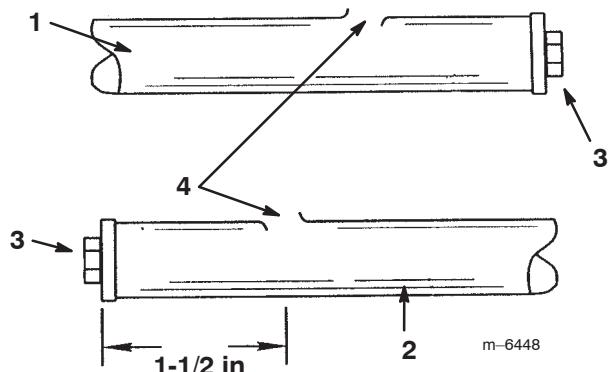

Figure 23
1. Locate, mark, and drill (through the top surface only) a hole (5/8 inch dia) 1-1/2 inch from the plugged end of the right boom pipe (Fig. 23).
3. Use a round file or deburring tool to deburr the holes you drilled in the boom pipes (Fig. 23).
4. Insert a drift punch into the 5/8 inch holes in the boom pipes and distort the openings as shown in Figure 23.